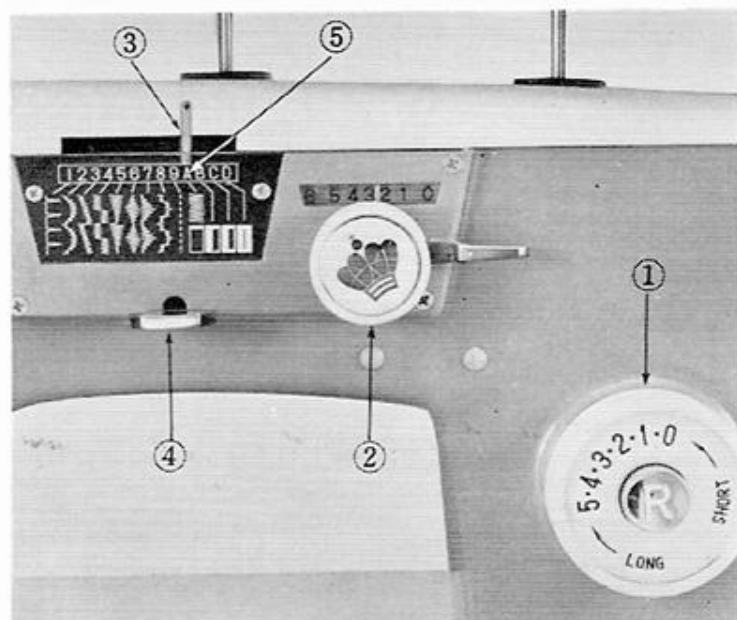

Fig. 24
- Set the stitch length (① Fig. 24) between 0 and 1 to achieve a tight stitch.
- Set the zig-zag width (②) between 3 and 4.
- Press pattern selector (④) to #A on pattern plate (③ & ⑤) and sew 4 or 5 tacking stitches.